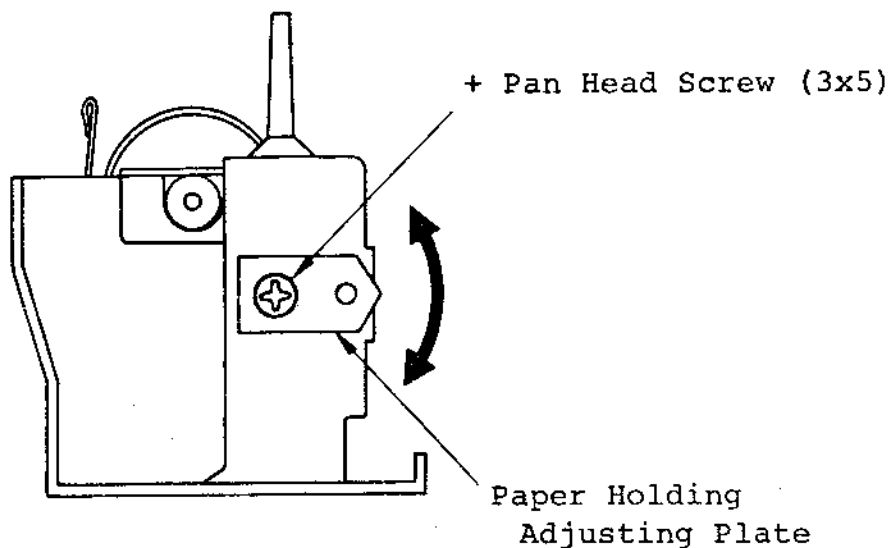

Fig. 135
Loosen the + Pan Head Screw (3x5) securing the Paper Holding Adjusting Plate on the Frame (L), and move it as shown in Fig. 135 so that the horizontal lines on the Pattern Paper meet with the lines on the Stitch Scale.